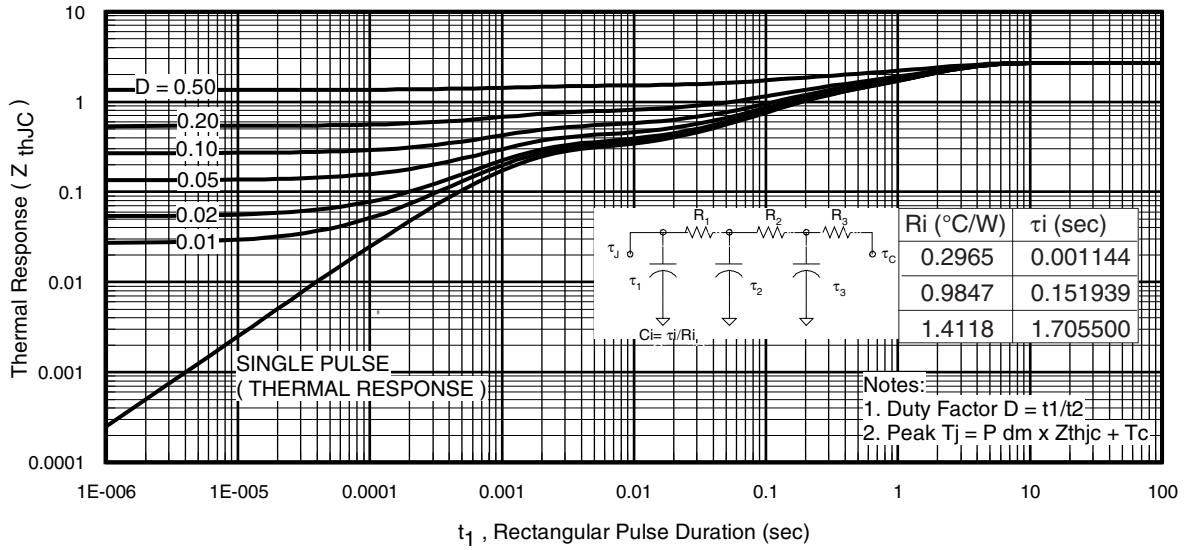

Fig 12. Maximum Effective Transient Thermal Impedance, Junction-to-Case
- ① Repetitive rating; pulse width limited by max. junction temperature. (See Fig. 12).